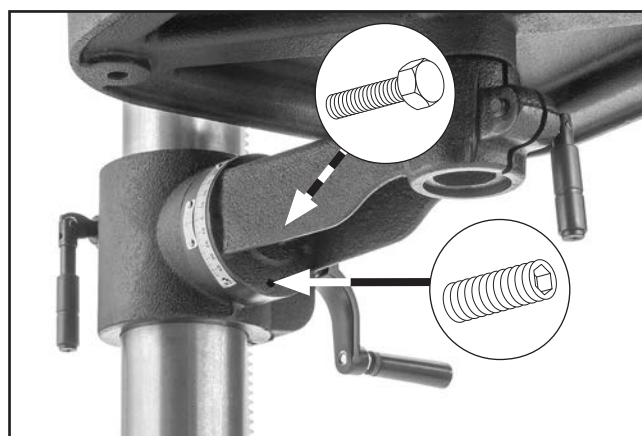

Figure 45. Location of table tilt hex bolt and set screw (hex bolt hidden by table arm).
There is also a set screw under the table that can adjust the table squareness when the tilt is set to 0° (see **Figure 45**). Tighten this screw to reduce the angle of the table in relation to the column.
1. Loosen hex bolt and set screw shown in **Figure 45**.